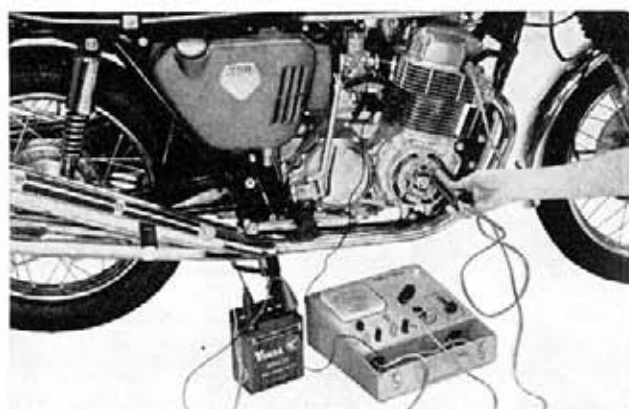

Fig. 7-2
1. Connect the power cord to the battery and ground the black ground cable. (Fig. 7-2)